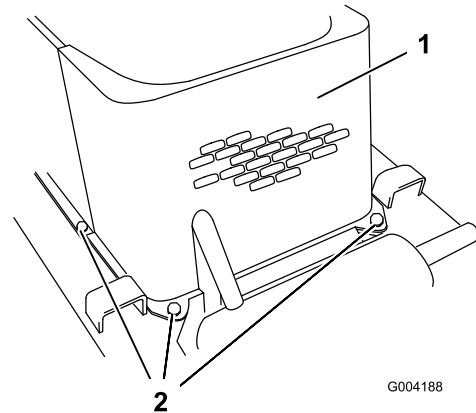

Figure 32
5. Remove the 4 bolts securing the front screen to the traction-unit frame (Figure 32).